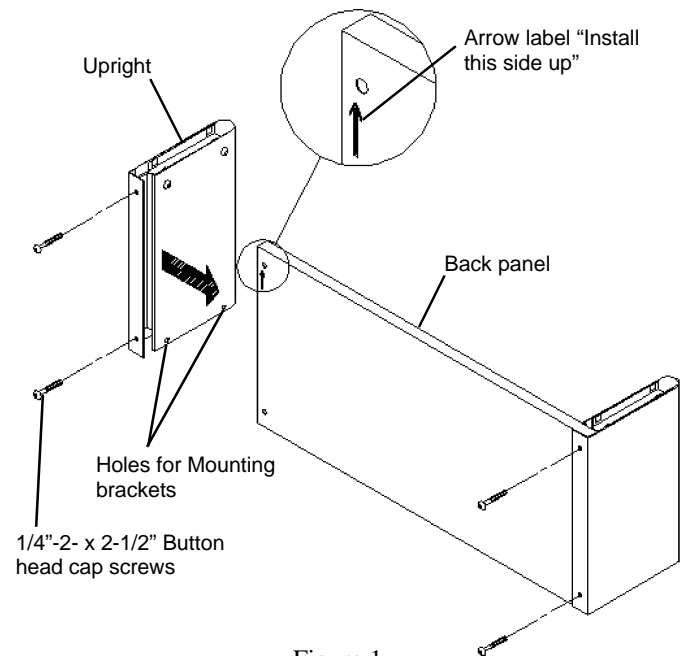

Figure 1
1. Carefully slide the **Uprights** over the ends of the **Back Panel**. Be sure that the holes for Mounting Brackets are at the bottom of the Uprights. See **Figure 1**.
2. Install the 1/4"-20 x 2-1/2" Button head cap screws through the Uprights and through the Back Panel. Thread the screws in until their heads touch the Uprights (snug fit). **DO NOT TIGHTEN**. See **Figure 1**.
1. Using the cardboard **Drill Template** provided, drill two 1/8" diameter holes approximately 1/2" deep into the two corners of the Linx Corner Workstation as shown in **Figure 1**.